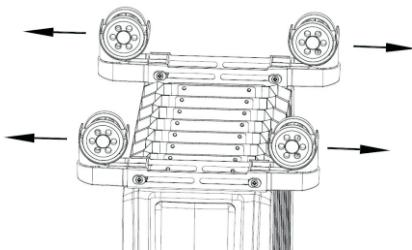

Fig 1
-Pull out the wheel base to each side ,see Fig 1.